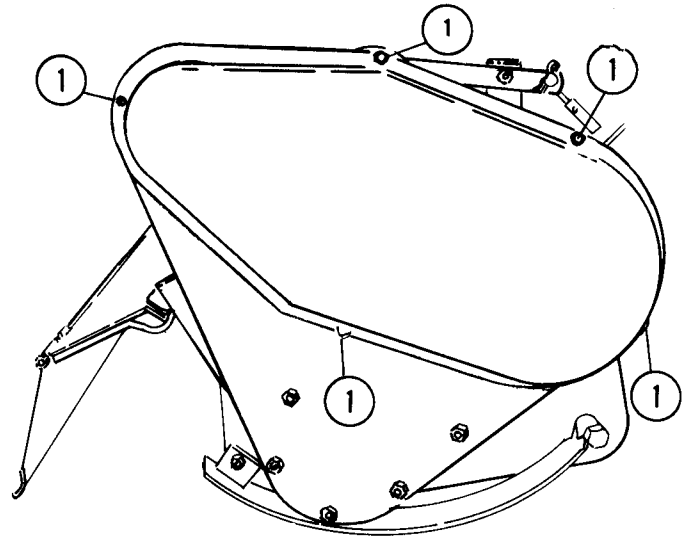

Fig. 13 — Outer Chain Guard
1. Remove chain guard by removing 4 retaining bolts, Figure 13.
1. Remove outer drive chain guard and outer drive chain as shown in Figures 13 and 14.